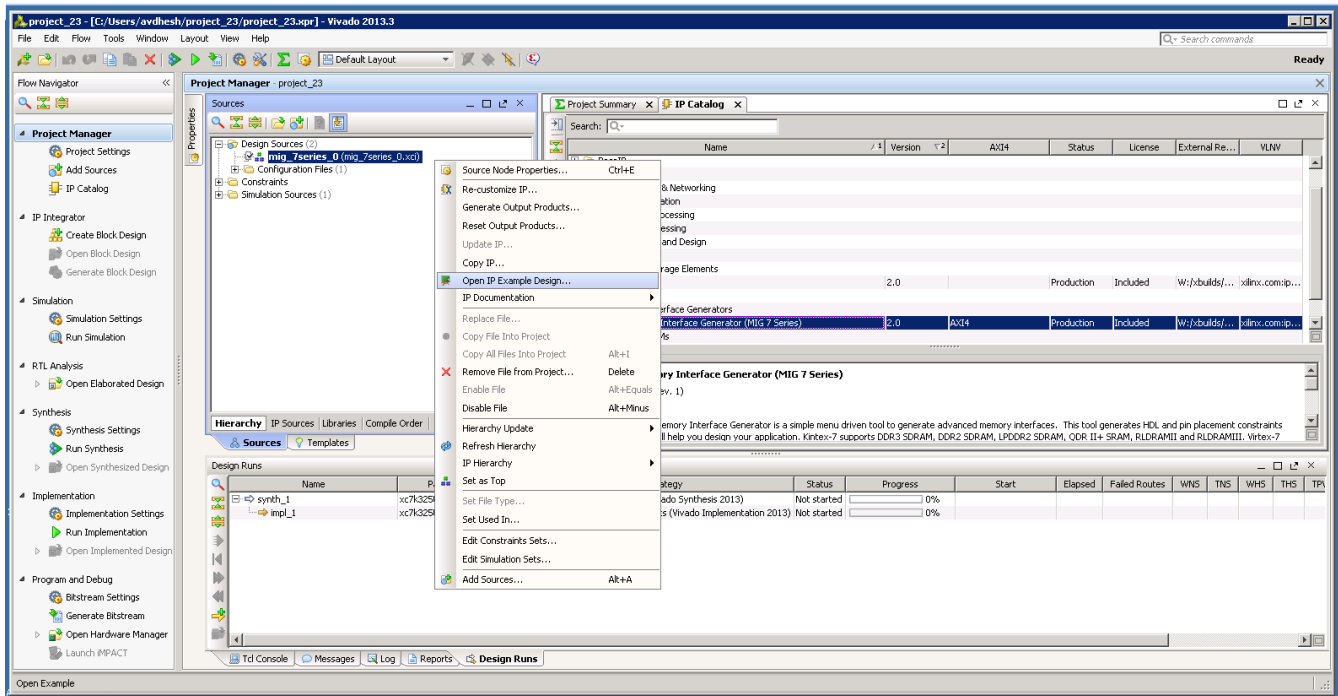

Figure 2-35: Open IP Example Design
- The Vivado Design Suite supports the **Open IP Example Design** flow. To create the example design using this flow, right-click the IP in the **Source Window**, as shown in Figure 2-35 and select.